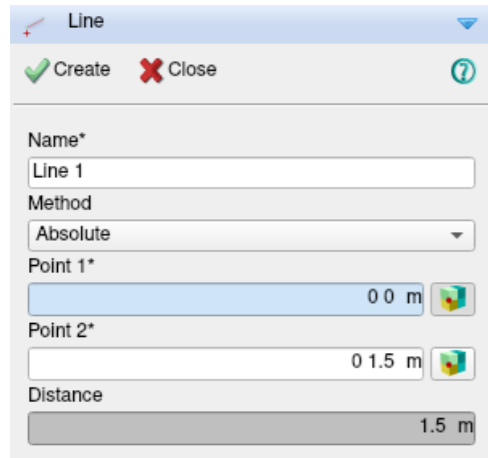
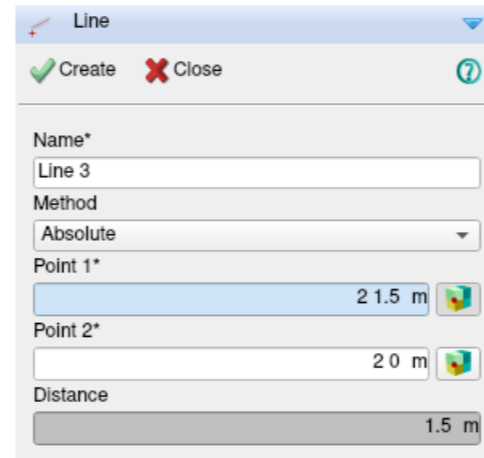

Figure 6: Add Line 1
Figure 8: Add Line 3
**Main menu** → Geometry → Create → Line  [Fig. 6] - [Fig. 8]